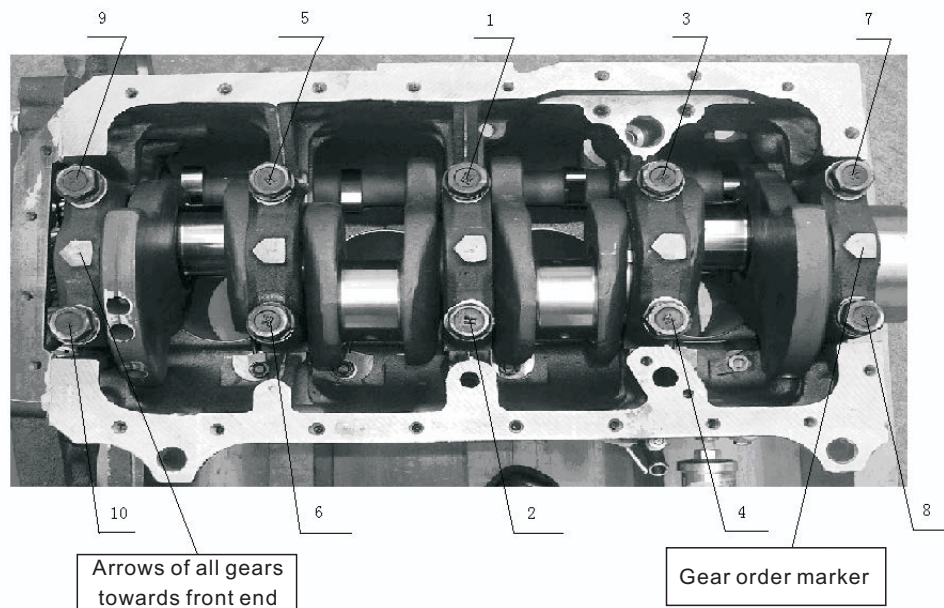

Fig. 4-7 Main bearing covers assembly order diagram
(4) Assemble the main bearing bolts that have been coated with thread sealant into the thread hole and then tighten the main bearing cover in twice from the middle to two ends according to the program shown in figure (see Fig. 4-7); after all main bearing bolts are tightened, the crankshaft should be run freely, free of blocked phenomenon. At last, push the crankshaft towards the front end, and check whether the crankshaft axial clearance is within the range of 0.115-0.256mm through inserting the feeler gauge into the thrust plate near the front end.